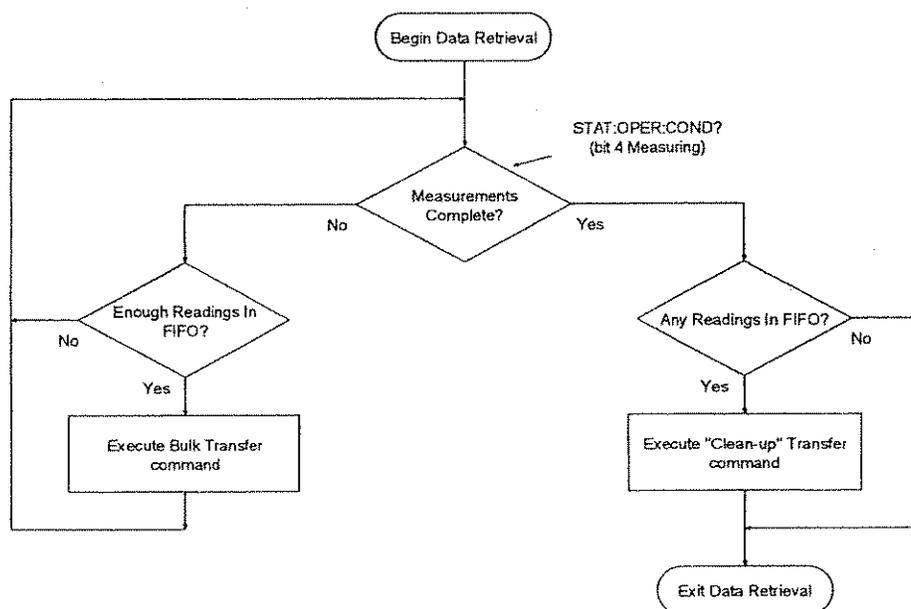

Figure 4-1 General Form of FIFO Data Retrieval
Figure 4-1 shows program flow in the data retrieval section for a single HP E1413. The conditions before entering the data retrieval section are:
- Instrument initiated (INIT sets the Measuring bit checked in the first decision block in Figure 4-1)
There are two command sets available to retrieve large blocks of data as diagrammed in Figure 4-1.